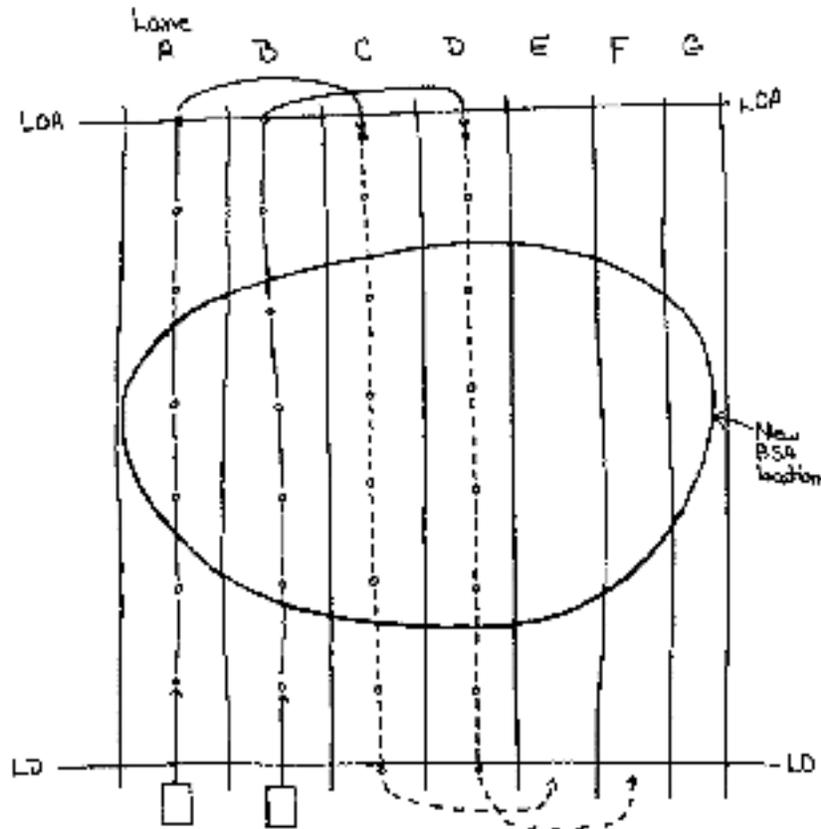

Figure 8-3. Lane search technique.
The lane technique is very similar to the zig-zag method and is used to locate contaminated areas. While the zig-zag technique can be used during route, area, and zone recon missions, the lane technique is used primarily during route recon missions. It could also be used for area recon of long narrow pieces of terrain, such as defiles. The recon element begins its search at the line of departure (LD) with an interval not exceeding 200 meters between vehicles. For narrow routes, the recon element has to move in a staggered column. Each vehicle moves along a line until reaching the LOA (see Figure 8-3). The vehicle crews monitor identification equipment for indications of contamination. Readings for contamination are